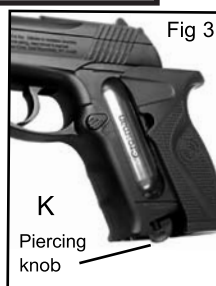

Fig 3
- K. Piercing knob (fig. 3)
- Holding the airgun as shown, slide the grip plate straight back to open (Fig. 3).
- Slide the grip plate straight back to open (fig. 3).
- Loosen the cartridge piercing knob by slowly turning it left (see fig. 3) allowing any remaining gas to escape.